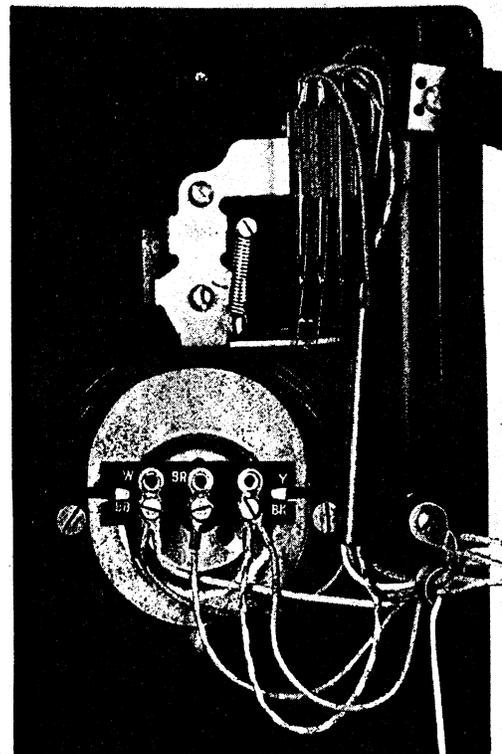

Fig. 21 - Assembly - 82A Apparatus Blank
3.09 The 82A apparatus blank is superseded by the 94A apparatus blank for use in the 300 series telephone sets. Figs. 21 and 17, respectively, show the assembly of each apparatus blank.